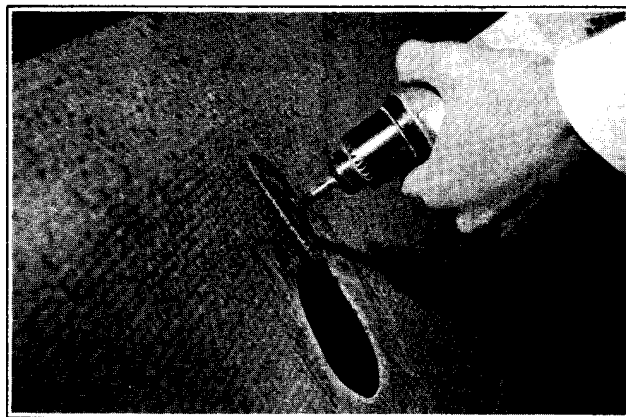

Figure 2-55. Rough Sanding Inside Surface
3. Rough sand the inside surface, using 80-grit dry sandpaper, feathering back about two inches all around the hole in the area the patch will touch. See Figure 2-55.